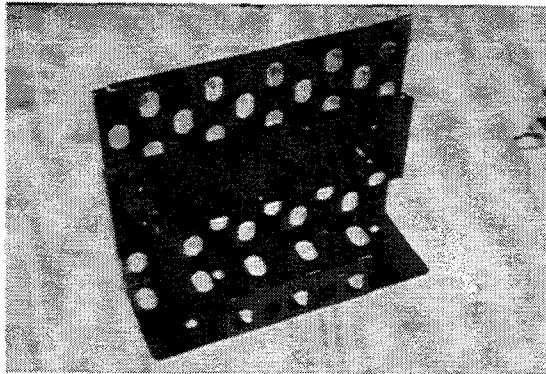

Figure 4
6. Attach CD bracket to J-bracket by aligning four pre-threaded inserts on J-bracket with holes on CD bracket (Fig. 4).